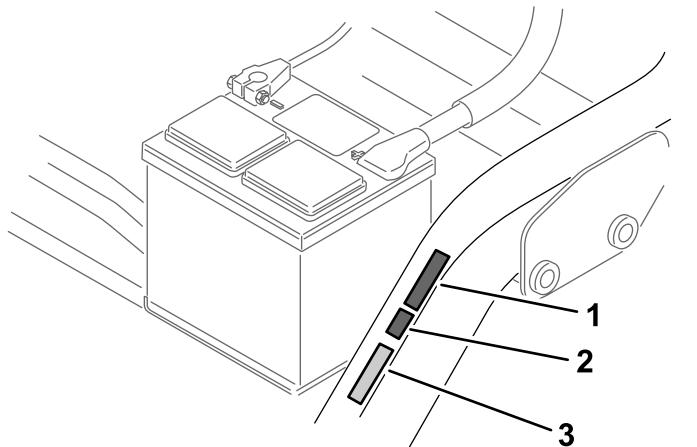

Figure 16
- Apply the CE production year decal next to the CE mark decal (Figure 16).
- Apply the CE mark decal next to the serial plate (Figure 16).